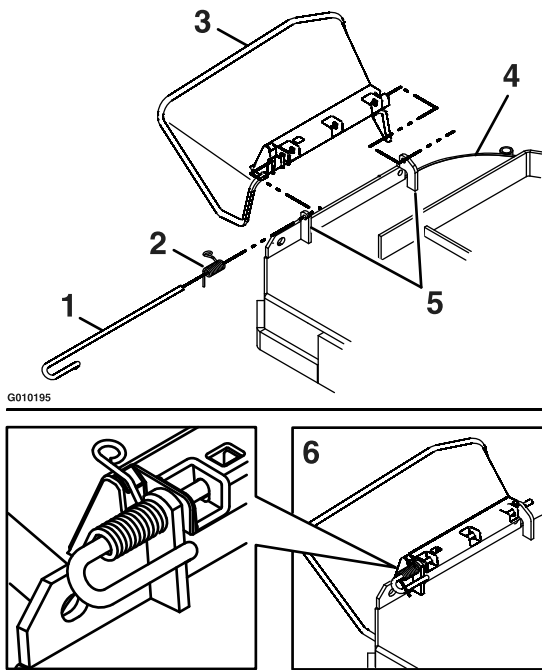

Figure 12
2. To install new discharge deflector, orient the spring on the rod as shown in Figure 12. Slide the rod through the front discharge deflector bracket, discharge deflector, and rear deflector bracket.
- Hook the bent end of the rod around the front discharge deflector bracket to retain it from sliding out. Place the leg of the spring with the loop in the notch in the discharge deflector to hold the discharge deflector in the down position (see Figure 12).